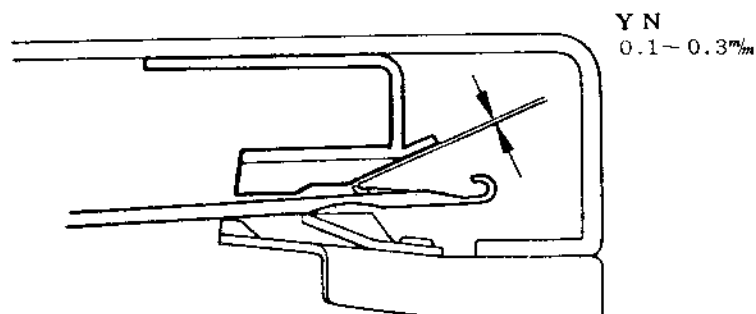

Fig. 104
4. Adjust the P.N. clearance to within 0.0-0.3 mm (to the extent that the edge of the Fabric Presser touches the lower part of the needles gently), and at the same time there must be a clearance between the Yarn Feeder and needles (as shown in Fig. 104).